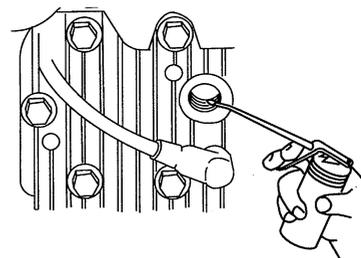

Figure 35
1. Remove spark plug. Using an oil can, squirt about one tablespoon of oil through spark plug hole (Fig. 35).